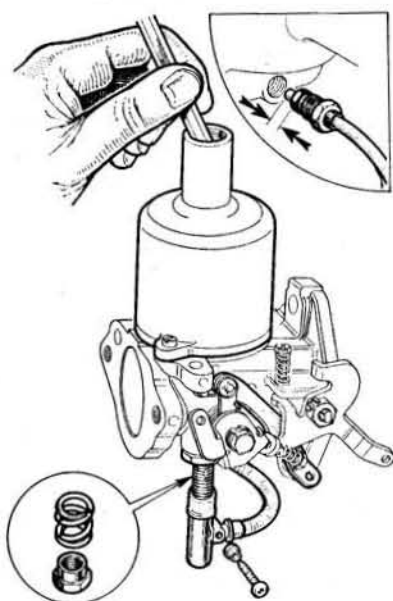

Fig.3.26. Centring the jet HS6 carburettor
- 4 Refer to Fig. 3.26. Withdraw the jet, disconnecting the fuel feed pipe union in the float chamber and removing the rubber sealing washer.
- 12 Refit the jet locking spring when centralisation is correct. Before replacing the fuel feed pipe line into the float chamber fit the rubber sealing washer over the end of the plastic pipe so that at least 3/16" (4.8 mm) of pipe protrudes (see inset, Fig. 3.26).